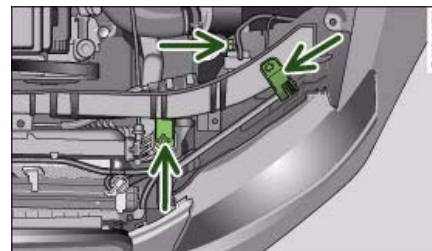

Fig. 259 Headlight unit: Attachment points are marked by arrows
- Slacken the two screws that secure the headlight to the lock carrier and the screw at the underside of the headlight (this screw is located between the cover and the rubber cap and should not be slackened more than ten turns) ⇒ *page 278*, fig. 259.